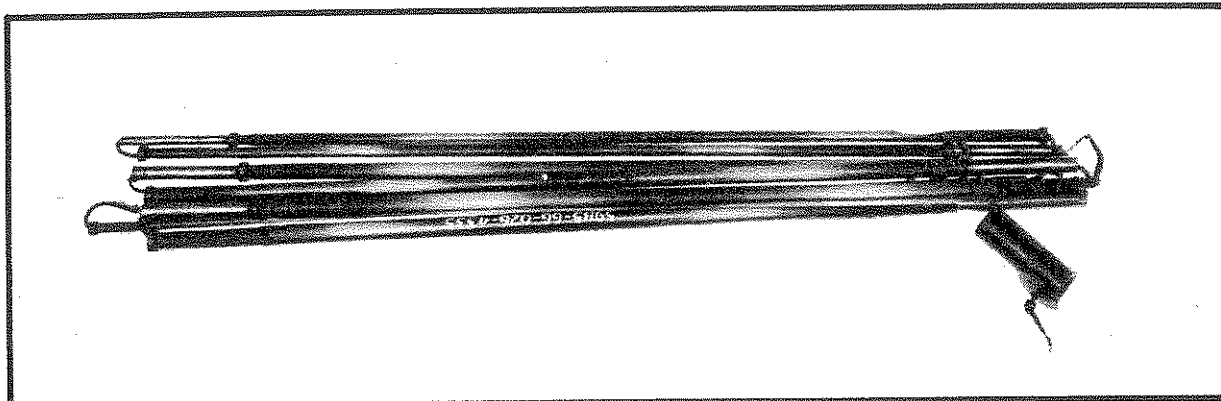

FIG 3
12. Antenna, AS-F1. (Fig 3). This is a vertical flexible antenna 2.4 m long. It consists of eight sections of steel tubing, each section fitting into the flared end of the next section. A nylon cord is threaded through the sections to facilitate assembly and prevent loss of sections.